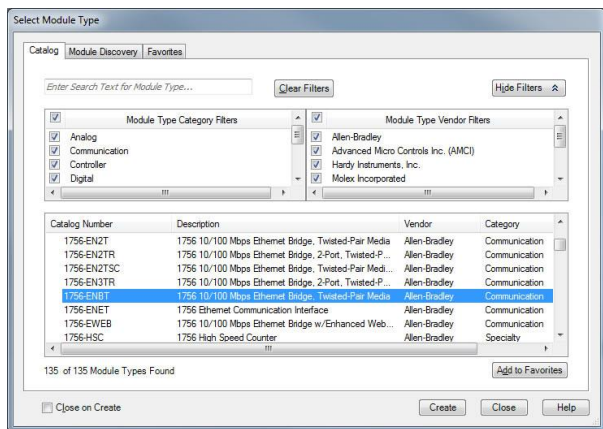

Figure 19: Adding a New Module
- 5) Select the "1756-ENBT/A", and click "Create". Refer to Figure 19.